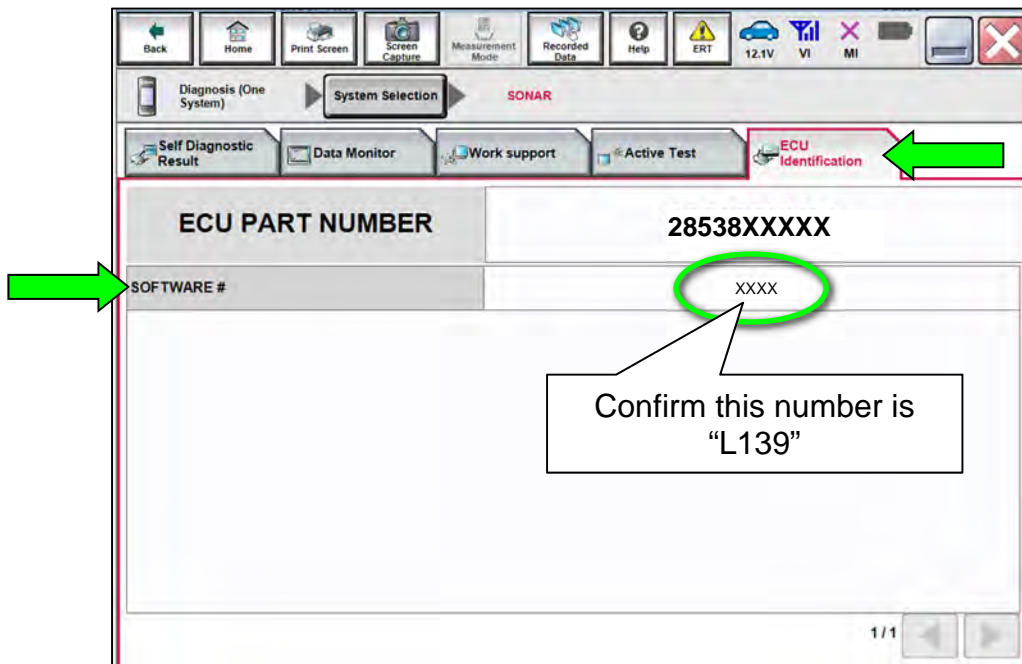

Figure 36
60. Confirm the **SOFTWARE #** (Figure 36).